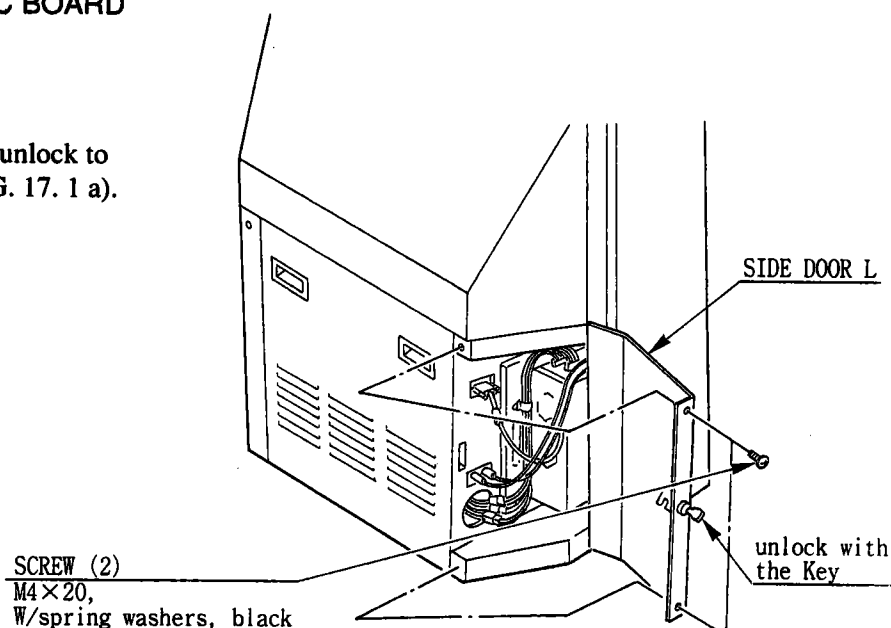

FIG. 17. 1 a
- ① Turn the power off.
- ② Remove the 2 screws, unlock to open Side Door L (FIG. 17. 1 a).
- ③ Disconnect the connector to be connected to the Terminal Board. The right and left sides of the connector are secured with screws. Loosen the screws and disconnect the connector. (FIG. 17. 1 b)